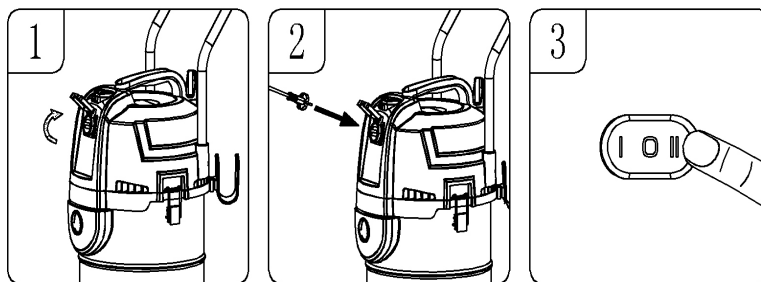
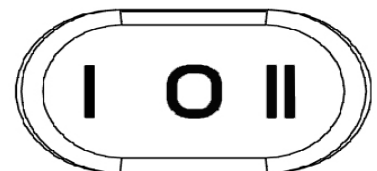

fig.7
fig.8
5.5. Switch and auxiliary socket use. (fig.7) (fig.8)
- 5.5.1. Switch operations (fig.8) : Start vacuum “ I ”, Turn off “ O ”, Auxiliary power control “ II ”